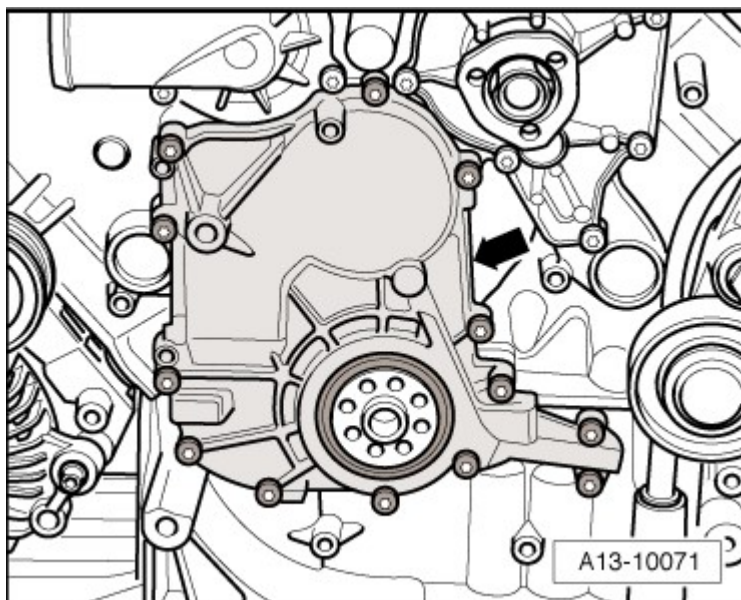

Fig. 4: Identifying Sealing Flange -Arrow- Bolts -- Tighten Diagonally
- Tightening specification and sequence, refer to **Fig. 4**
- Tightening specifications, refer to item 12